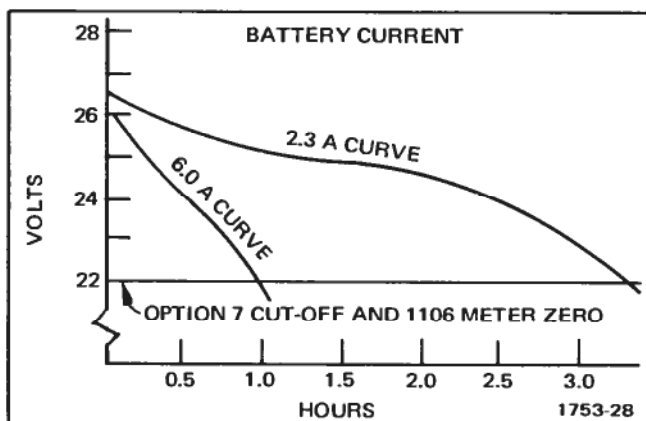

Figure 6-11. Typical battery pack discharge curves.
*Option 07 is calibrated at the factory using a power supply having the specifications given in Table 6-2, Equipment Required. This permits the most accurate setting of the turn-off volts and inverter balance adjustments. Because this type of power supply may not be available, several alternative possibilities are given. The alternate power supplies have drawbacks, including voltage stability vs. time with high discharge rates. See Figure 6-11.*